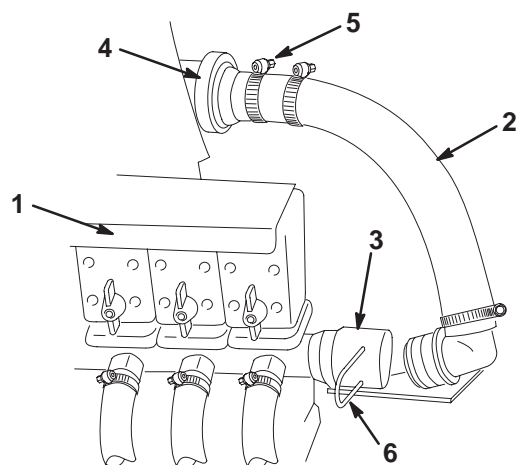

Figure 2
1. Remove the 2 large worm screw clamps securing the 2 boom supply hose fittings to the flow meter (Fig. 2).
2. Remove the retainer securing the end of the shorter boom supply hose to the straight fitting located to the right of the boom supply valves (Fig. 2).
5. Remove and retain the 2 ratcheting hose clamps securing the fittings to each hose (Fig. 2).
8. Attach the fitting on the end of the shorter supply hose section to the straight fitting located to the right of the boom supply valves with the retainer you removed previously (Fig. 2).